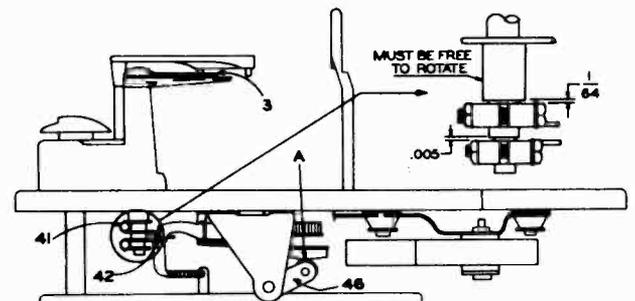

Fig. 5
1. Turn the Record Shelf (4) to the 12" position.
2. Trip the Reject control and rotate the Turntable clockwise until the push off Blade reaches its farthest forward position. At this point the cam follower will be at the highest point on the Main Cam ("A" of Fig. 5).
3. Loosen the lock bolts of (41) and (42).
5. At the same time, push the Push-off Blade forward as far as possible and push the Push-off Blade and Record Shelf Assembly downward tight against the Housing (6).
6. Position the Record Shelf finger and the Toggle Assembly (41) so the 12" finger of the Push-off
1. Turn the record Shelf (4) to the 12" position.
2. Trip the Reject control and rotate the Turntable until the Push-off Cam Follower reaches the highest point on the Main Cam ("A" of Fig. 5).
3. Loosen the Push-off Blade finger (42) clamp bolt.
4. Push the Push-off Blade forward as far as possible and hold the Push-off Blade and Record Shelf assembly downward tight against the housing (6).
5. Tighten the Push-off Blade finger clamp bolt (42), leaving $\frac{1}{64}$ " vertical clearance between the shoulder of the Record Shelf shaft and the Push-off Blade finger (42).